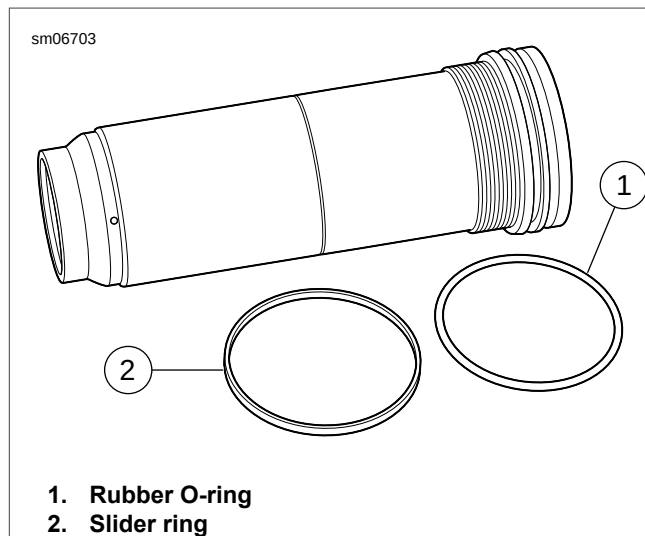

Figure 2-153. Rod Guide Case and O-Rings
3. See Figure 2-153. Replace the rod guide case O-ring (1) and the slider ring (2).